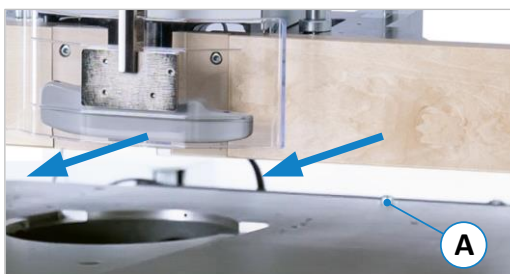

Figure 22: Move centrally over milling spindle
- Move the fence over the machine table with the help of a second person, with a suitable hoist or with the optional Swivel-away device so that it is approximately centred over the milling spindle (see ⇒ Figure 22).